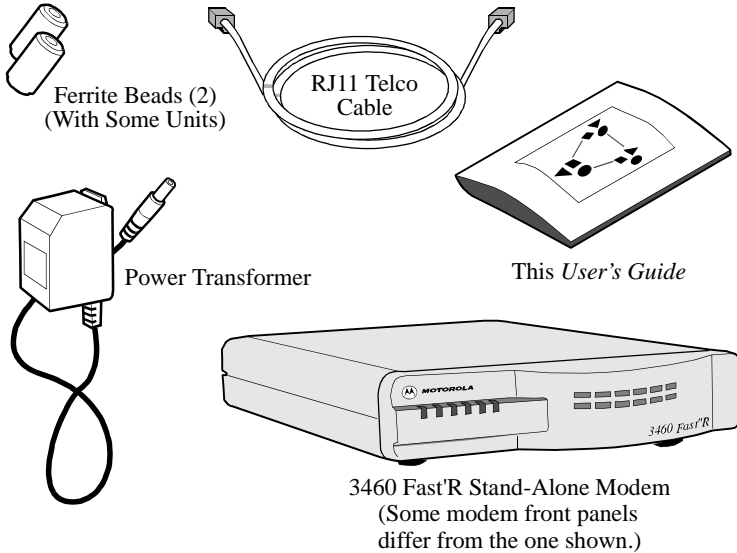

Figure 1-1. 3460 Fast'R Stand-Alone Modem Parts
In the shipping carton, locate the items shown in Figure 1-1.
1.	Compare the modem package contents to Figure 1-1. If a part is missing, contact your nearest Motorola representative, or: <ul style="list-style-type: none"> • In the U.S.A.—Motorola Customer Administration, 20 Cabot Blvd., Mansfield, MA 02048. (508) 261-4745. • Outside the U.S.A.—Motorola distributors are listed on our Web site, at: http://www.mot.com/MIMS/ISG/